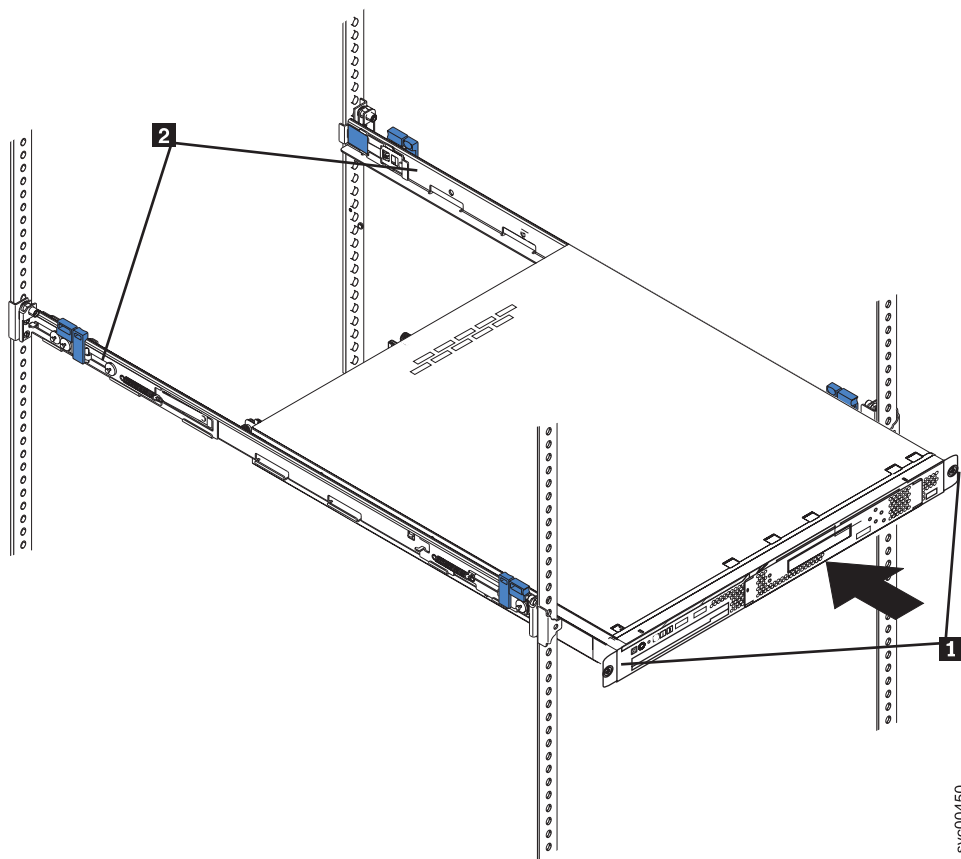

Figure 38. The captive thumbscrews that secure the node and the shipping brackets
- Align the node on the slide rails and push the node fully into the rack. Secure the node to the front mounting flanges with the captive thumbscrews ( **1** in Figure 38 on page 59).